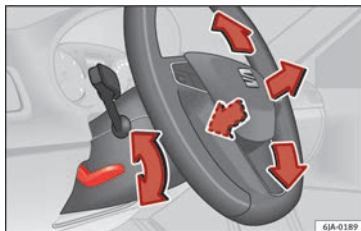

Fig. 3 Adjustable steering wheel: lever beneath steering column/safe distance from steering wheel.
- Pull down the lever located below the steering wheel » Fig. 3 A.